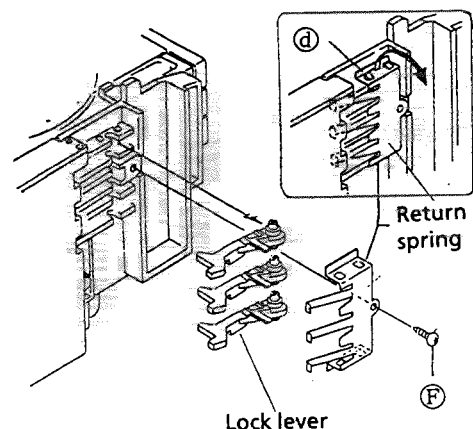
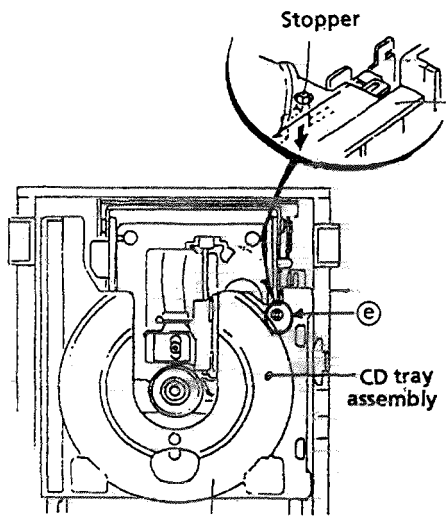

Fig. 2-4
Fig. 2-5
6. Remove a screw ⑦ which secures the return spring and lock levers from the chassis ass'y. (See Fig. 2-4.)
7. Remove 2 pawls ① which slightly secure the return spring to remove it.
9. Check that the lifter unit stopper is inserted into hole ⑥ located on CD tray ass'y. (See Fig. 2-5.)